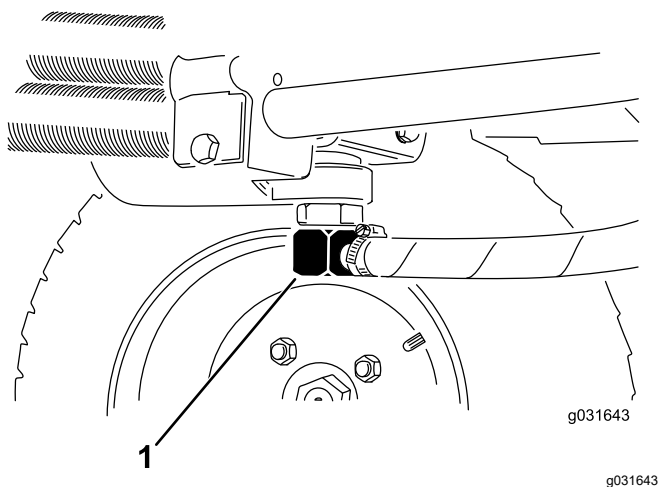
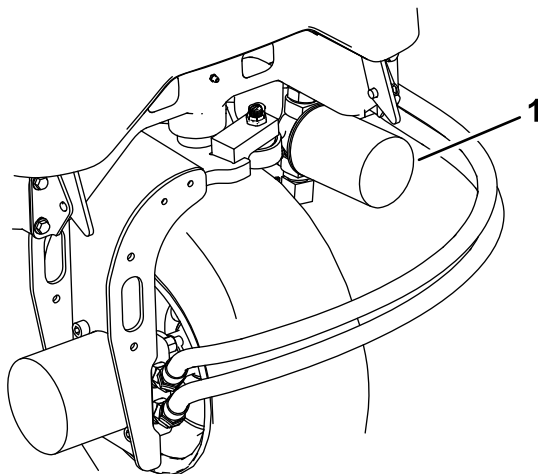

Figure 65
Figure 67
2. Disconnect the hydraulic line or remove the hydraulic filter and let the hydraulic fluid flow into a drain pan (Figure 67 and Figure 65).
3. Install the hydraulic line when the hydraulic fluid stops draining (Figure 65).
3. Clean around the filter-mounting area, place a drain pan under the filter, and remove the filter (Figure 67).